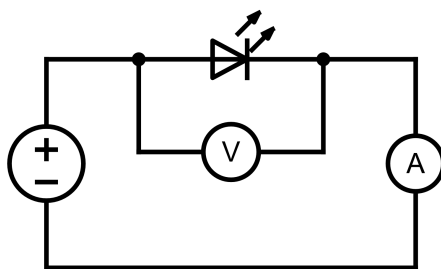

Figure 1.3: A diagram of the simple LED circuit used in this experiment.
1. Using the breadboard, set up the circuit shown in figure 1.3 (refer to the equipment guides on Blackboard for further information). While this circuit is simple and you may think there is no need for a breadboard, it is important to get into the habit of using one. When building more complicated circuits, the breadboard is a good way of keeping the wiring neat and organised, and keeping track of what is connected to what. Don't forget to colour code your wiring (e.g. red for positive terminal, black for ground, blue for voltmeter, etc.)